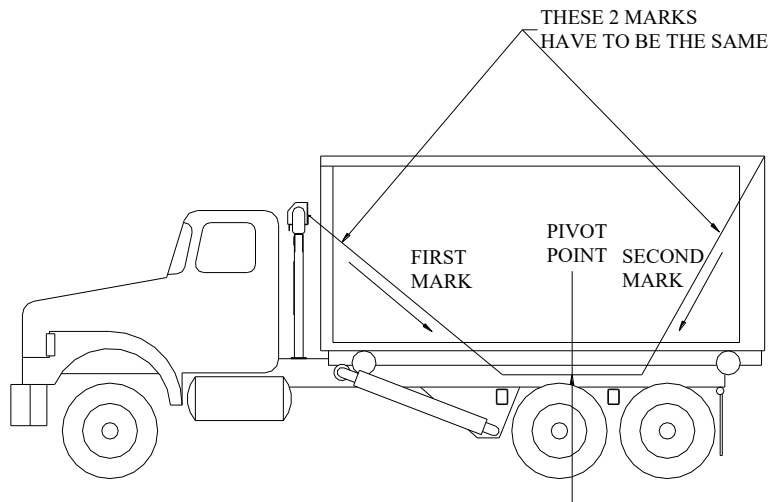

Figure 1
- 3) Measure from the first mark to the second mark, divide that measurement in half and make a mark. This is where the mount needs to be centered. (Refer to **Fig. 1**)